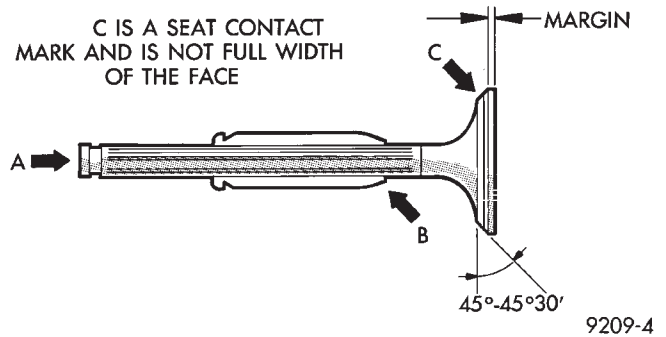

Fig. 106 Valve Inspection
- (1) Check valve stem tip for pitting or depression at point A (Fig. 106).
- (2) Check for wear and ridge wear at Point B.
- (3) Measure the clearance between the valve guide and valve stem. If the service limit is exceeded, replace the valve guides, valves or both.
- (4) Check for even contact (at face center) with valve seat, Point C.